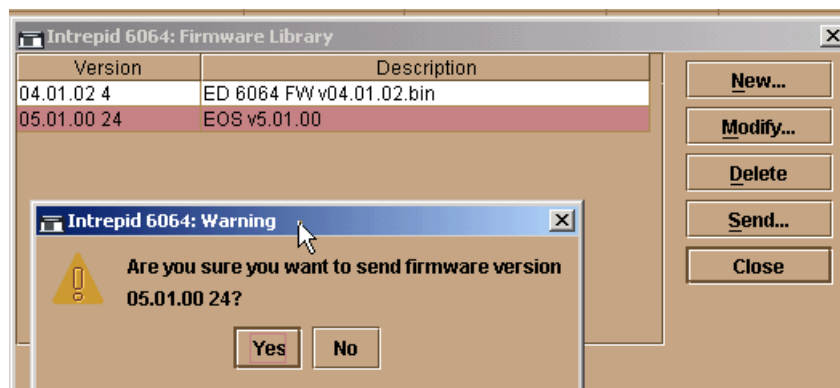

Figure 4-131 Send firmware download confirmation prompt
- b. Verify the active and backup CTP cards from the hardware menu of the ED-6064 product manager view by double-clicking the CTP cards shown in Figure 4-131.
- a. From the firmware library menu, select the firmware that was stored previously and click **Send...** and it will prompt for confirmation to send the firmware, as shown in Figure 4-131.